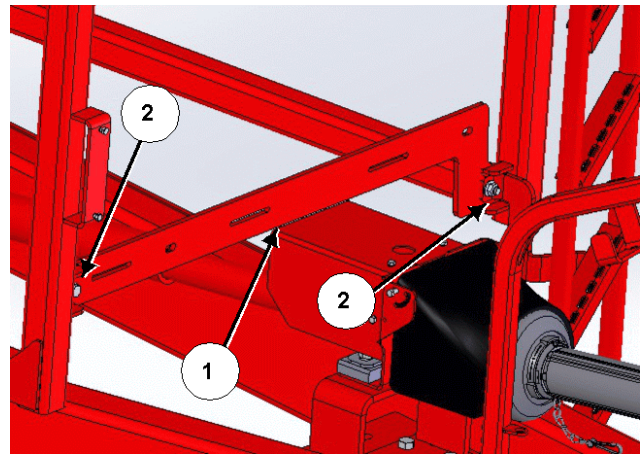

Figure 3: Install the front conveyor support bracket
4. Install the front conveyor support bracket (1) onto the platform uprights, as per *Figure 3*.
- a. Fasten the bracket with 2 of ½" x 1-½" hex bolts, flat washers and flange lock nuts (2).